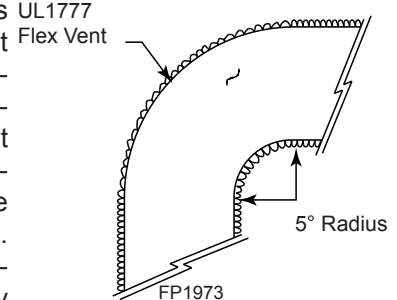

**Figure 36 -
2. The flex adapter starter kit (DVFF8A/8) is used to attach flex venting to the appliance starting collar. It includes 5" inner and 8" outer adapter rings. *Figure 36*
- A. Installing the inner flex adapter and pipe. *Figure 36*
- B. Installing the outer flex pipe. *Figure 36*